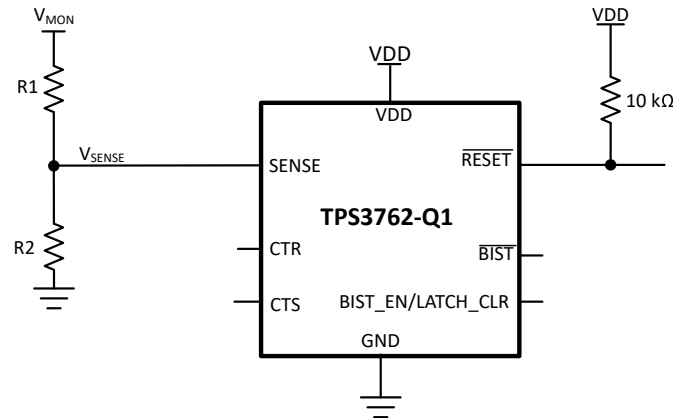

図 11-1. Adjustable Voltage Threshold with External Resistor Dividers
図 11-1 illustrates an example of how to adjust the voltage threshold with external resistor dividers. The resistors can be calculated depending on the desired voltage threshold and device part number. TI recommends using the adjustable (0.8V voltage threshold device) when setting adjustable voltage thresholds. This variant bypasses the internal resistor ladder.
For example, consider a 12V rail,  $V_{MON}$ , being monitored for overvoltage (OV) using of the TPS3762D02OVDDFRQ1 variant, as shown in 図 11-1. The monitored OV threshold, denoted as  $V_{MON+}$ , is the desired voltage where the device asserts the reset. For this example  $V_{MON+} = 35V$ . To assert an overvoltage reset the voltage at the sense pin,  $V_{SENSE}$ , needs to be equal to the input threshold positive,  $V_{ITP}$ . For this example variant  $V_{SENSE} = V_{ITP} = 0.8V$ . Using  $R_1$  and  $R_2$  the correlation between  $V_{MON+}$  and  $V_{SENSE}$  can be seen in 式 8. Assuming  $R_2 = 10k\Omega$ , and  $R_1$  can be calculated as  $R_1 = 427.5k\Omega$ .